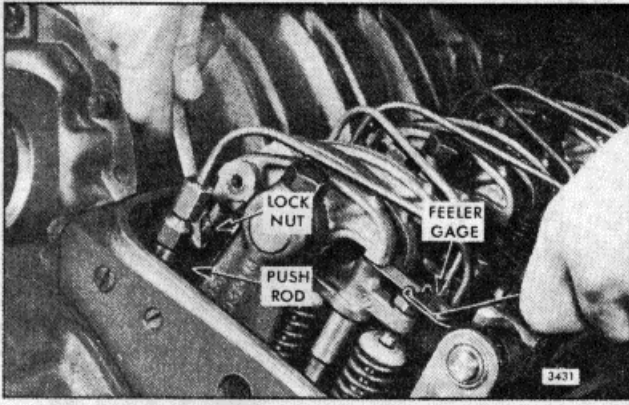

Fig. 2. - Adjusting Valve Clearance
5. Place a .016 feeler gage (J 9708-01) between the valve bridge and the valve rocker arm pallet (Fig. 2). Adjust the push rod to obtain a smooth "pull" on the feeler gage.